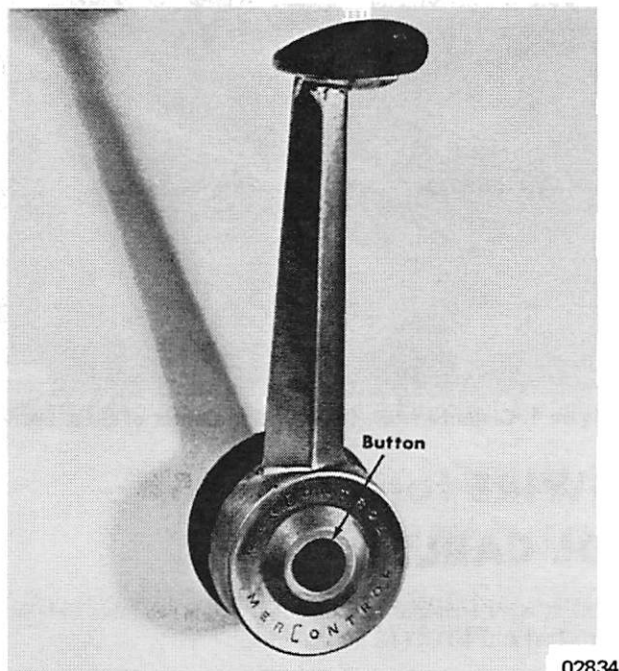

Figure 1. Control Handle
1. Remove button from control shaft. (Figure 1)
2. Loosen set screw in handle (Figure 1) and remove control handle.